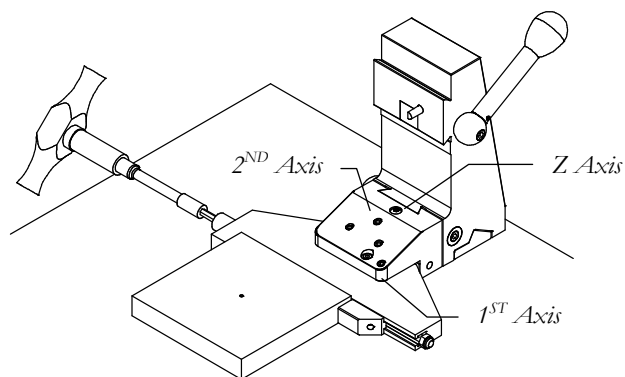

Figure 1
STEP 1. CLAMPING THE WORK PIECE (A). Insert the V06/TD01 onto the MCD01 or PS01 presetting station. **(B).** Push the torque handle down slightly with one finger - do not click the handle. Make sure the TD01 is bottomed out on the surface plate. If it is not touching the surface plate then turn the z-axis screw counter clockwise until the TD01 touches the surface plate.
STEP 3. Clamp the work piece in the V06 vise using the THW07 hex torque wrench as shown in Fig. 1. Do not use any other hex wrench. **DO NOT OVER TIGHTEN.** The vise knob contains a shear pin that will shear at 1 1/2 times the torque from the THW07 torque wrench. If the shear pin breaks, a spare shear pin can be installed. Contact the factory for any problems.